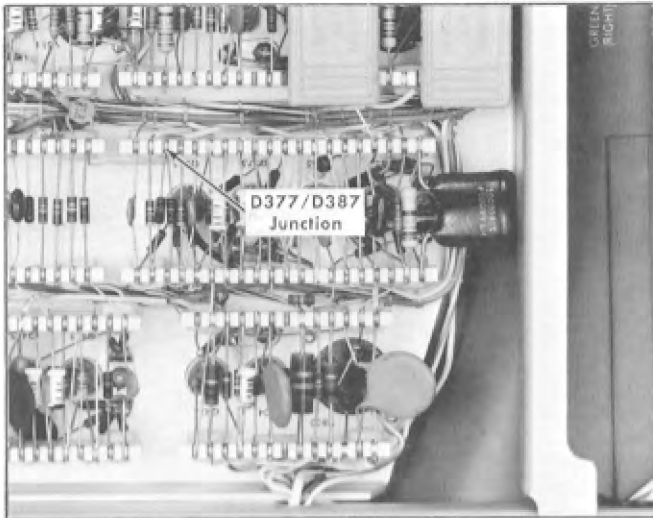

Fig. 6-30. Location of D377/D387 junction.
- e. Connect a $1\times$ probe from the appropriate Trigger Input connector of the test oscilloscope to the junction of D377 and D387 (see Fig. 6-30).